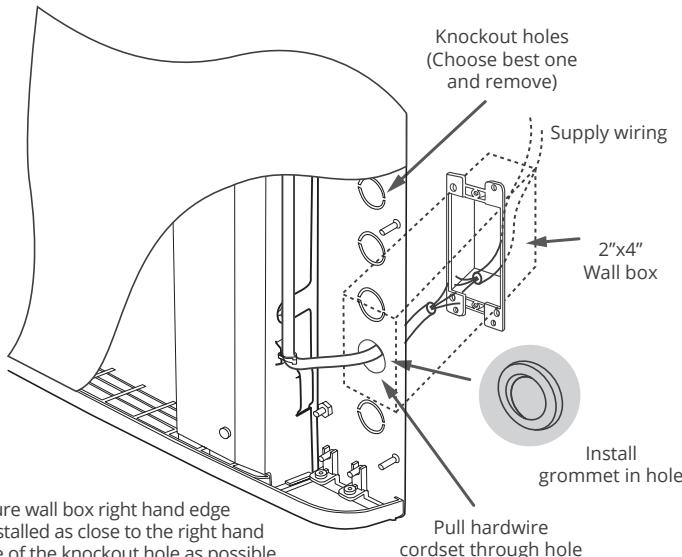

Fig. 9
- 1 Determine the best wall mounting location of the Envi Heater in a room. If the proper electrical wiring and wall box already exists at a suitable height on the wall, then choose a suitable knock-out hole on the back of the heater (5 holes to choose from) and position the heater on the wall so that the knockout hole lines up with the electrical wall box. Refer to Fig. 9 for more details.
3 Remove the Envi Heater from the wall to prep for the hardwiring steps. Pull the cordset through the knockout hole using pliers and install the supplied protection grommet. Strip wires to expose 5/8" of copper on all 3 of the cordset wires (see Fig. 9).